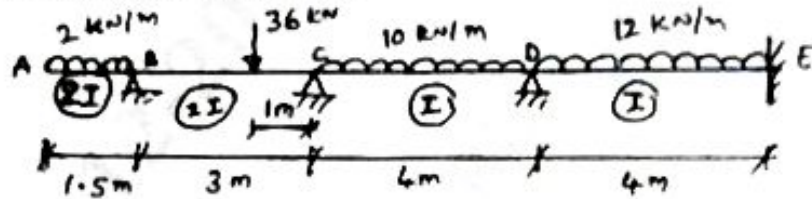

Fig Q1
1. Analyse the continuous beam shown in Fig Q1 by slope deflection method. Draw bending moment diagram and shear force diagram.